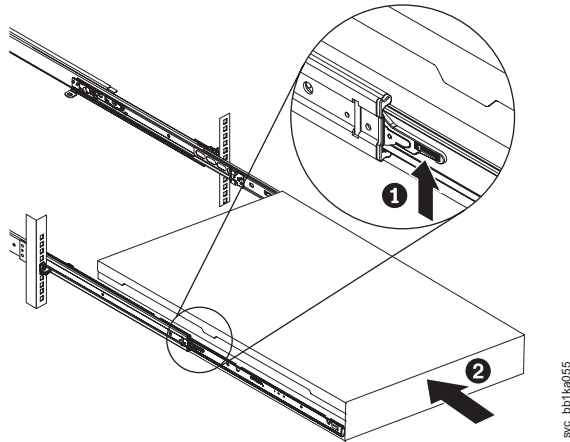

Figure 234. Raising the SAN Volume Controller 2145-CF8 or 2145-CG8 locking levers of the slide rails of the rack
9. Lift the locking levers (**1** in Figure 234 on page 235) on the slide rails and push the server **2** all the way into the rack until it clicks into place.